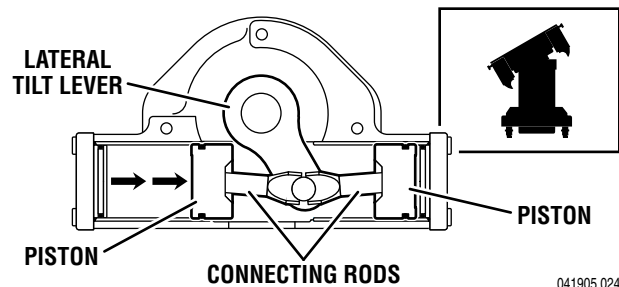

Figure 1-10. Lateral Tilt Cylinder Assembly
3. Lateral Tilt Assembly - The lateral tilt assembly consists of two cylinders, pistons and connecting rods. The connecting rods attach to the lateral tilt lever which connects to the table side frames. When hydraulic fluid is pumped into one cylinder, the piston and connecting rod pushes the lateral tilt lever which tilts the table top to one side. To tilt the table top in the opposite direction, fluid is pumped into the opposite cylinder. See figure 1-10.